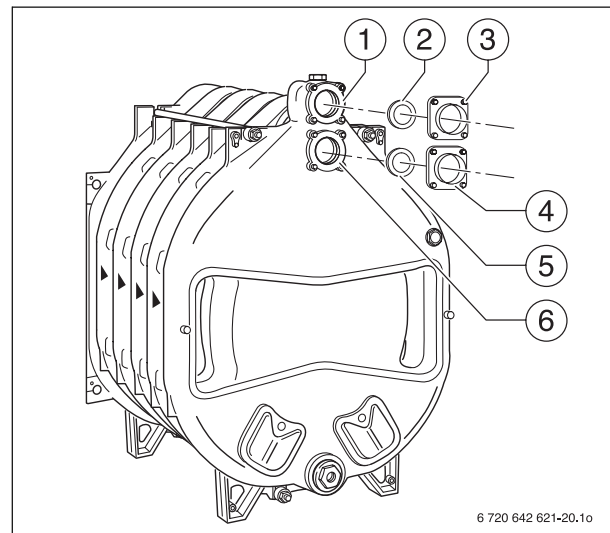

Fig. 27 Fitting a flange
The weld neck flange is fitted to the upper boiler hub (Fig. 27, [6]) – return connection) if the return is connected at a later stage.
The weld neck flange and flat gasket are shown (Fig. 27, [4 and 5]).
- ▶ The supply connection flange (Fig. 27, [3]) with flat seal (Fig. 27, [2]) is required for connecting the supply at a later stage (Fig. 27, [1]).